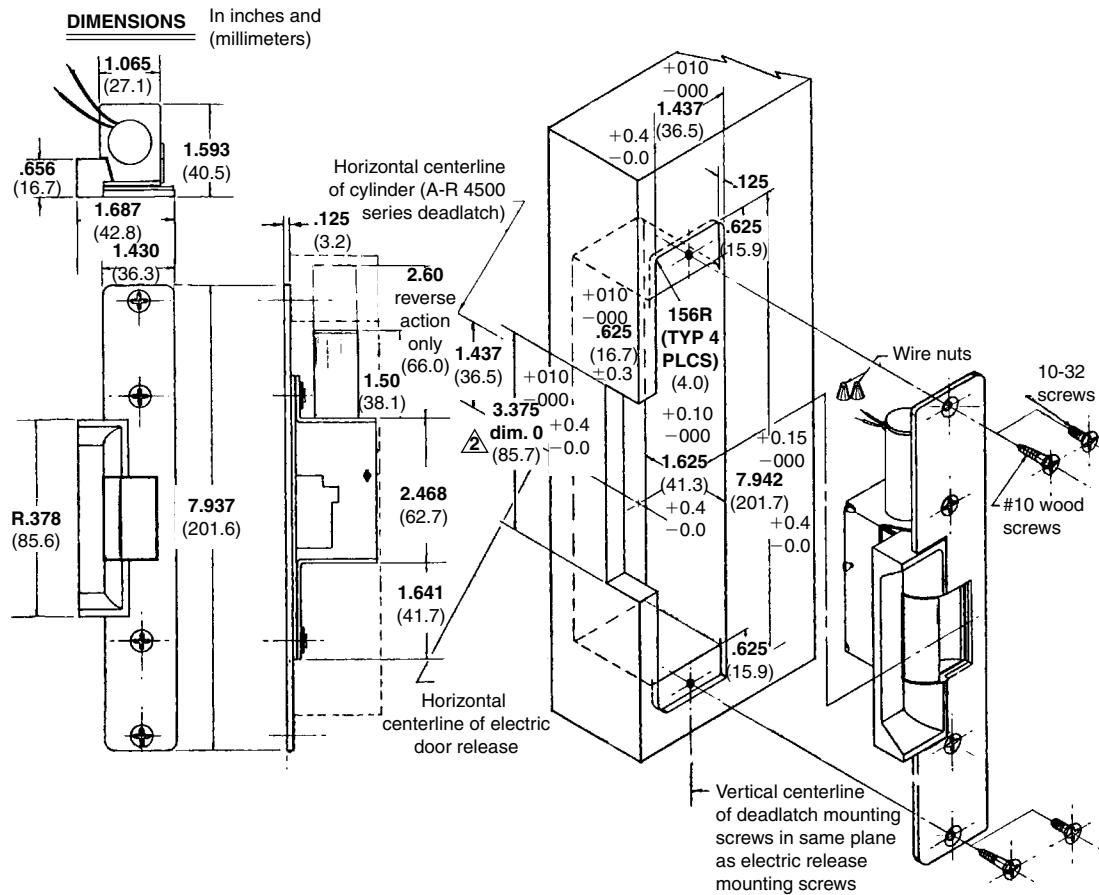

Figure 19.3 Dimensions and installation details for unit to be mounted in a wood frame. (Adams Rite Mfg. Co.)
1. Prepare the jamb to the dimensions shown in Fig. 19.3. Take care to mortise the cut to clear the solenoid.
Figure 19.3 also shows the dimensions of the 7510 electrical door release unit.